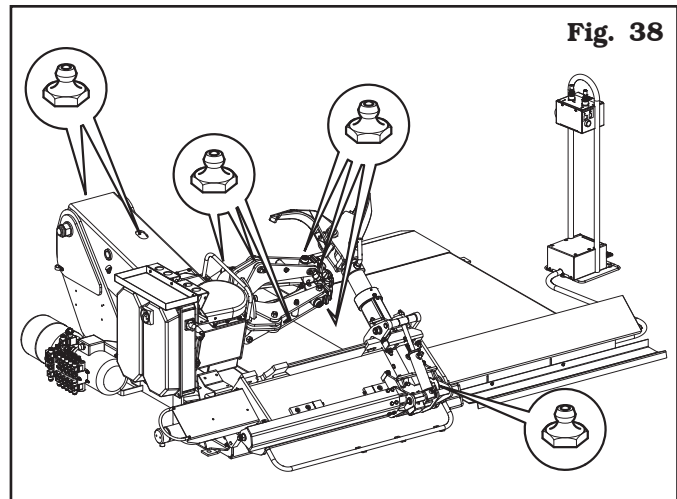

Fig. 38
- Periodically (preferably once a month), grease all moving parts of the equipment (see **Fig. 38**).